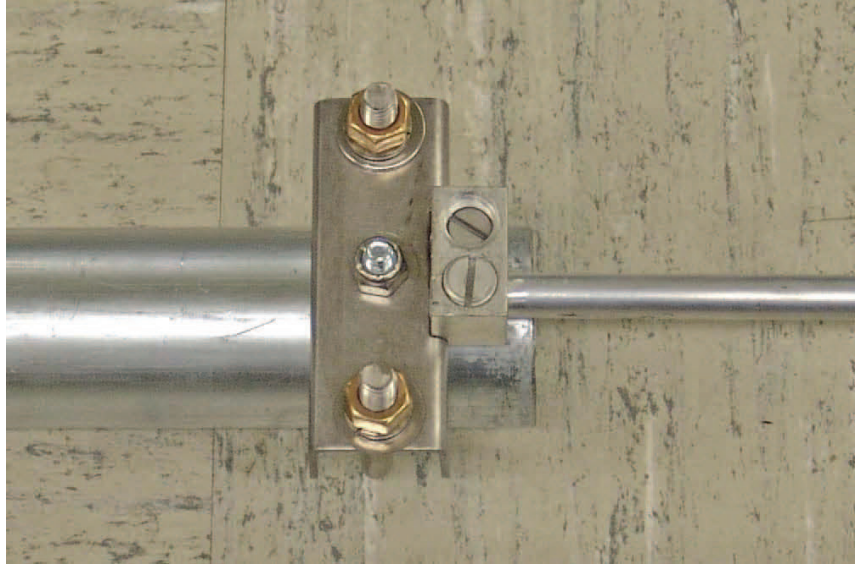

FIGURE 3-19. Installed lightning rod
Step 2: Place clamp onto top of mast Section 6 and tighten (see FIGURE 3-19).
Step 3: Insert rod into clamp and tighten (see FIGURE 3-19).